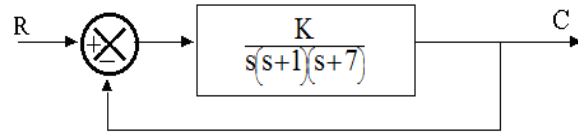

Fig.7
c. Determine value of K for stable system shown in Fig.7.